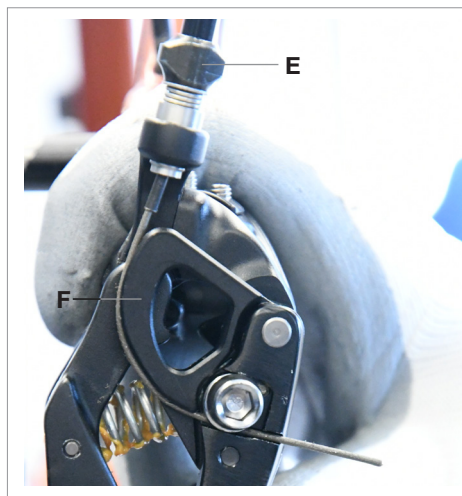
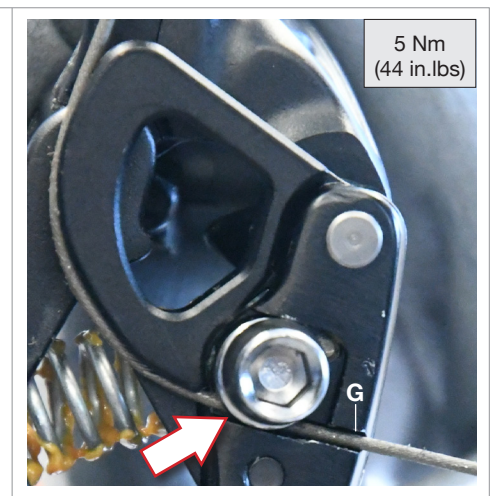

Fig.14
Fig.15
- Insert the cable into the cable tension adjuster (E - **Fig.14**), and pass it through the appropriate cam (F - **Fig.14**) and the recess (G - **Fig.15**) in the rear derailleur.